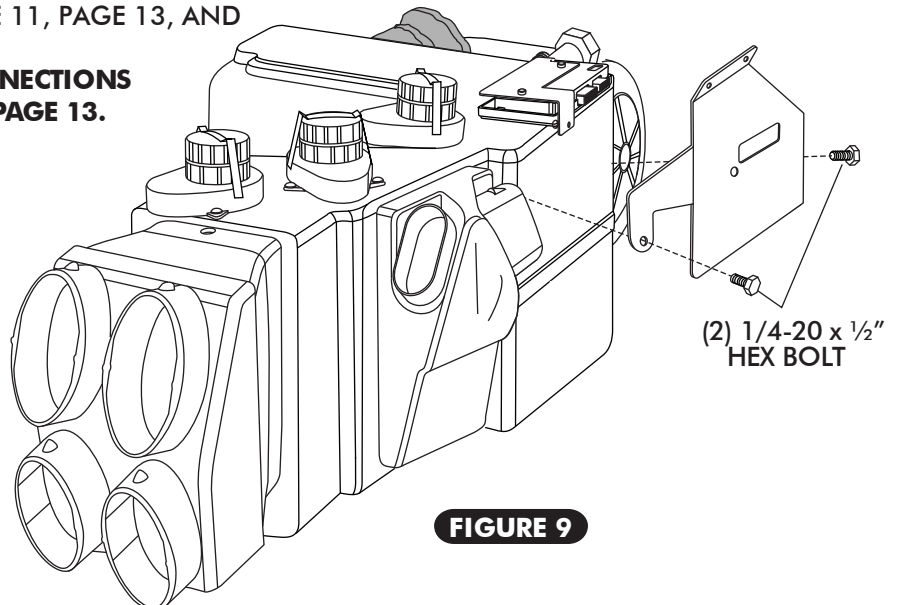

FIGURE 9
- ☐ ON A WORKBENCH, INSTALL EVAPORATOR FRONT & REAR MOUNTING BRACKETS ON EVAPORATOR USING (4) 1/4-20 x 1/2" HEX BOLTS, AND TIGHTEN AS SHOWN IN FIGURE 9, BELOW, & FIGURE 10, PAGE 12.